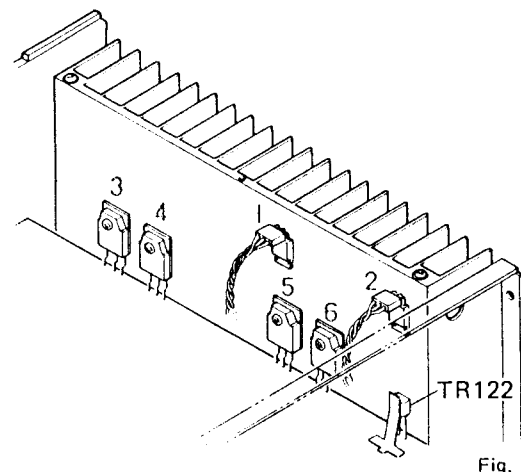

Fig. 10
- a. Detach the connectors ① and ② in Fig. 10 which are connected to the drive transistor.
- e. Remove screws ③ through ⑥ in Fig. 10 which fix the power transistors and then exchange the transistors.
- * After the heat sink has been mounted, check that TR122 can sufficiently touch the heat sink. Apply silicon grease to the contact surface. When the heat coupling between power transistor and the heat sink is imperfect, the power transistors may be damaged thermal run away. (Fig. 10).